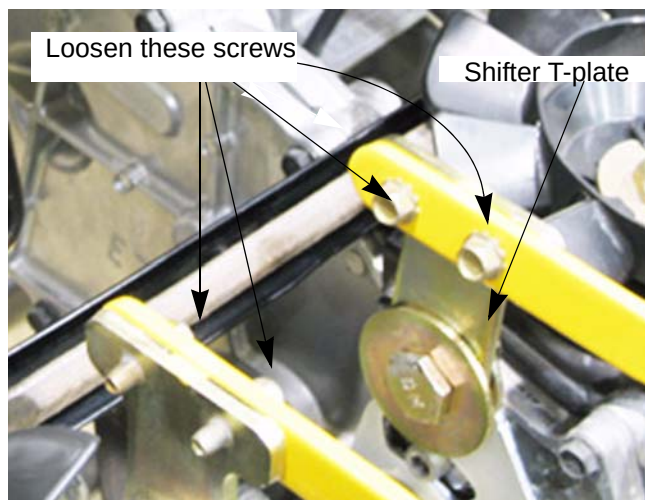

Figure 6.4
3. Loosen the two screws that attach the linkage to the transmission(s). See Figure 6.4.